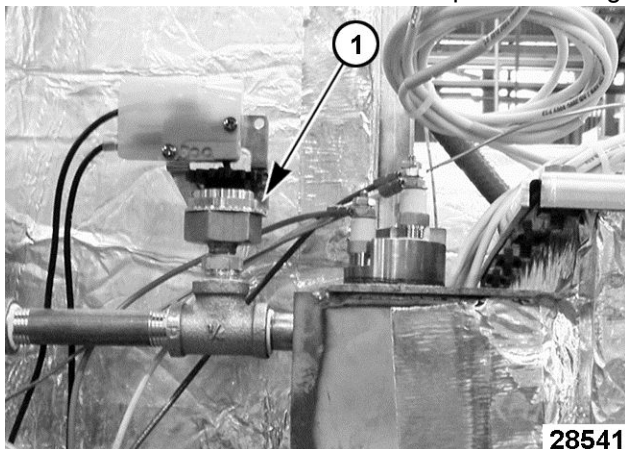

Fig. 75
3. Locate pressure switch [1] Fig. 75 in the piping that extends from the water level probe housing.